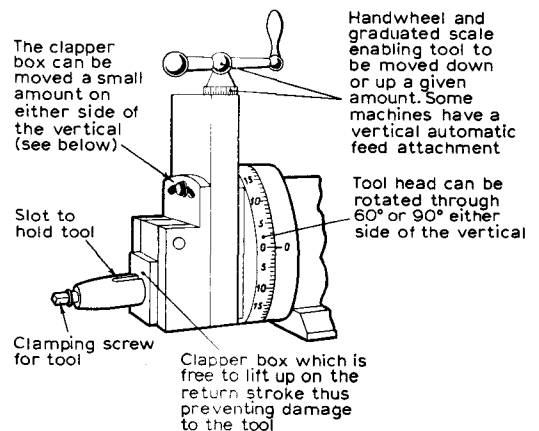

Fig. 4.210 The sliding head of the shaping machine
**Holding the tool.** Fig. 4.210 illustrates the sliding head of the shaping machine.